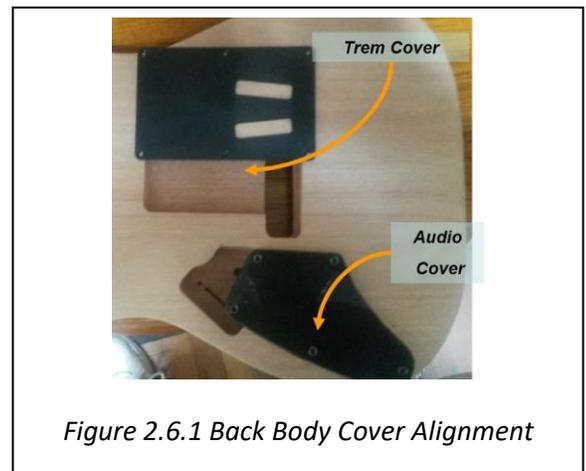

Figure 2.6.1 Back Body Cover Alignment
2.6 Fit check of the Covers (Fig 2.6.1)